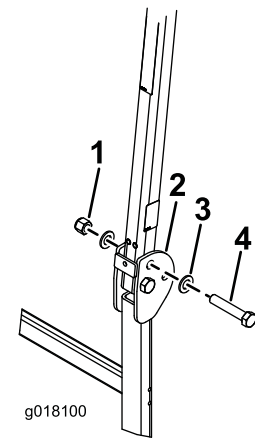

Figure 15
- In the holes where the pins were removed, install the bolts and washers (Figure 15).
- Install another washer onto each bolt and secure with nuts (3/4 inch) as shown in Figure 15. Torque the nuts 323 to 396 N·m (238 to 292 ft-lb).
- Torque the ROPS pivot bolt (Figure 15) 91 to 113 N·m (67 to 83 ft-lb) to avoid any bouncing of the roll bar and sunshade.
- Insert a washer (13/16 x 1-1/2 inches) onto each bolt (3/4 x 4 inches) as shown in Figure 15.